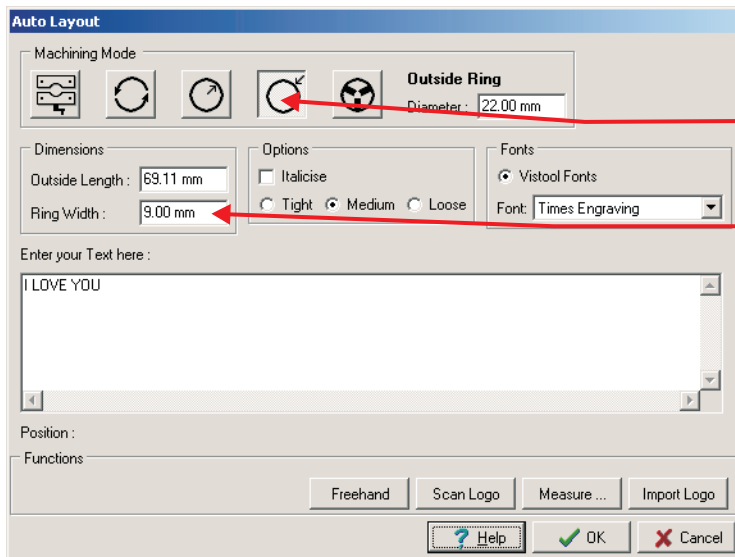

Figure 13
- 6 Now select Auto Layout from the Text Menu or Toolbar icon, you will now have the Auto Layout Dialogue Box, see Figure 13 and can start to setup your job.